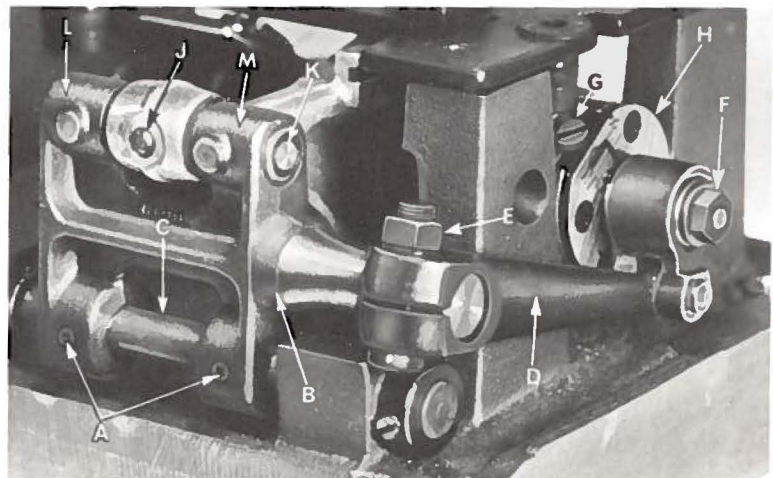

Fig. 10
Should it be necessary to move the feed dog to the left or right, loosen screws (A, Fig. 10) which hold the feed rocker (B) onto the feed rocker shaft (C) and move feed rocker to desired position and retighten screws. Make sure the feed rocker arm (D) does not bind after making this adjustment.
Set the stitch to required length. This is accomplished by loosening the locknut (F, Fig. 10) (it has a left hand thread) on the end of the stitch regulating stud and turning the stitch adjusting screw (G) lo-
The feed rocker assembly may require lubrication or repair after years of operation. This can be accomplished as follows: Loosen nut (E, Fig. 10) and remove nut (F). Remove feed rocker arm (D) from machine by rocking slightly. Loosen screws (A) and remove stop collar on right end of shaft (C). The shaft can now be withdrawn. Loosen Allen screw (J) and remove shaft (K). Now, repack bearings.
When packing the bearings, the parts must be clean and grease should be applied directly from the tube to avoid contamination. Tube of grease can be supplied under the part number 28604 P. Greased bearings are located at (L, M, Fig. 10).